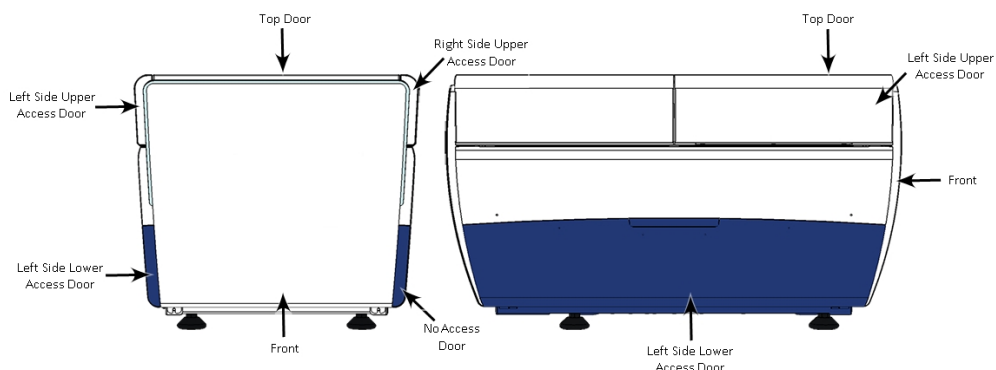

Figure B-1: Instrument Front and Sideways Installation Orientation Options
- Table or workbench dimensions depend on your installation orientation. See Figure B-1.
Note: Molecular Devices recommends that the left side of the instrument face forward to allow optimal access to the lower door, as illustrated in Figure B-1. There is no lower access door on the right side of the instrument.